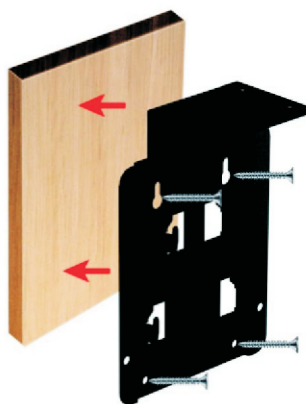

Figure 2
2. If you need to secure the safe to the side of items such as a table, select the 4 holes in the vertical plane of the mounting bracket (Figure 2) (The top two holes are the main stress holes) and use the mounting screws to fix the bracket to the table.
Note: If only the top two holes on Figure 2 are used, the bracket can be moved from the table. For your safety, you should fix the bottom two holes as well.